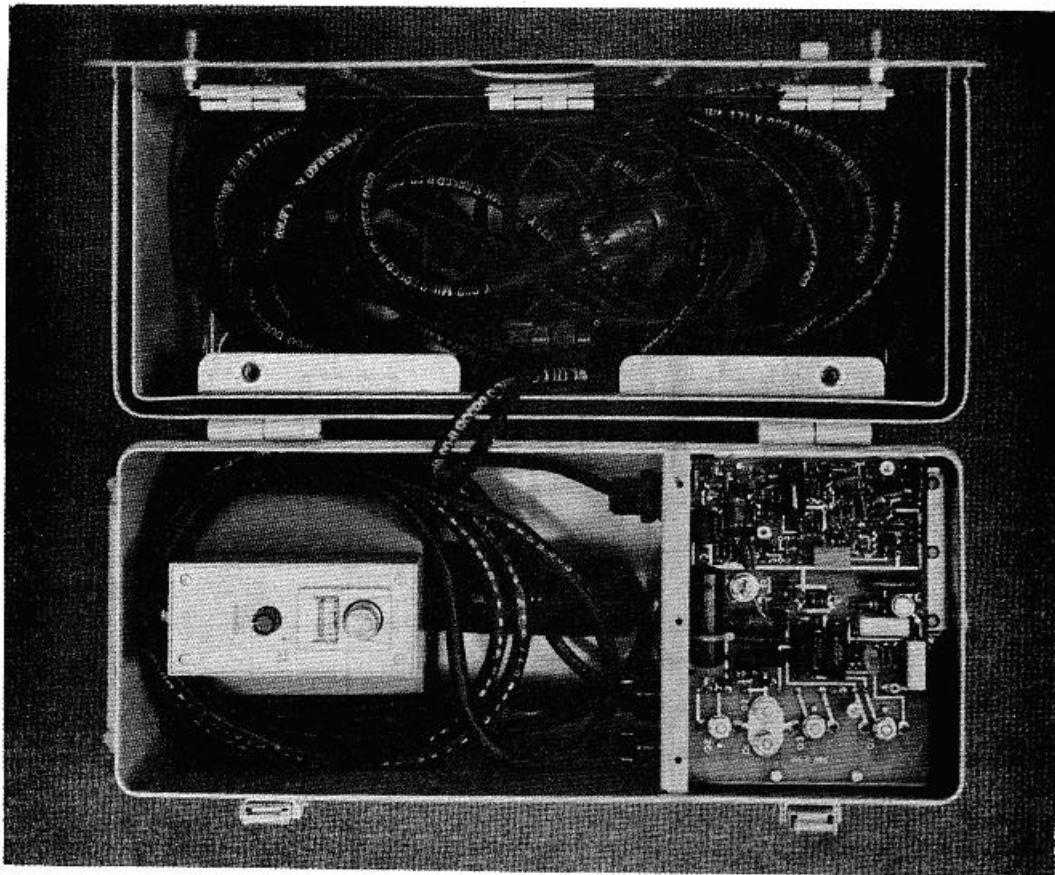

Figure 1-5. Cable and Lamp Storage And Circuit Compartment.
- a) Unplug two each 40' cables from 28 VDC power and signal respectively, and coil them in cover of case. It is easiest to coil (or zig-zag) the Power and Signal Cables in cover together. This makes them easier to remove. Close inner lid (See Fig. 1-5 and 1-1, b and c).
- b) Replace hand-held lamp in case nesting it in foam pad as provided. Coil its cable loosely around back of lamp. (See Fig. 1-5).